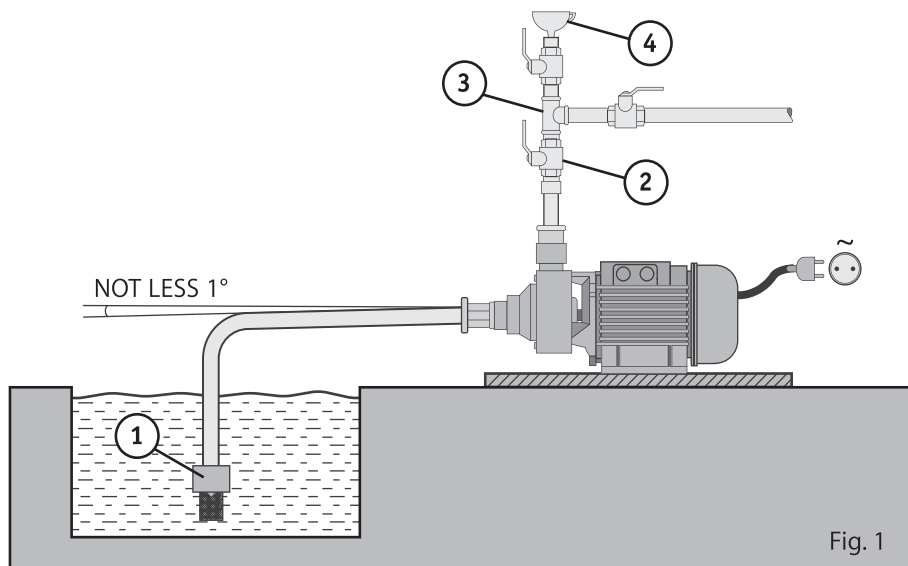

Fig. 1
When pumping water from an open reservoir (Fig. 1), a well or a well, for any version, the distance from the bottom of the reservoir to the inlet valve must be at least 0.5 m.
*When installing the suction pipeline, it is necessary to ensure a continuous slope of the pipe from the pump to the water intake source of at least 1 ° to exclude the accumulation of air bubbles and the formation of air plugs (Fig. 1).*